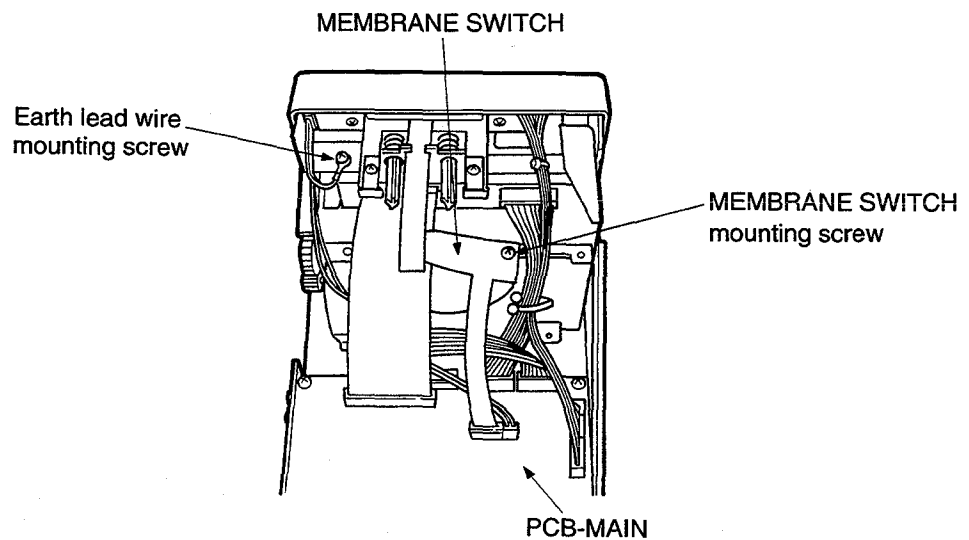

Fig. 1-4
4. Remove the MEMBRANE SWITCH mounting screw connected to the fan bracket. (Fig.1-4)
3. Remove the FRONT PANEL. (Fig.1-4,1-5)